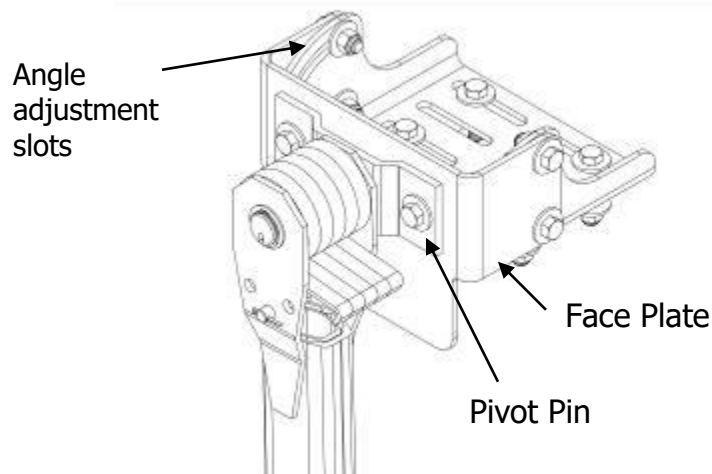

Figure 23
4. Locate Pivot mount face plate and bolt it to the base mounting plate as shown in Figure 23. Note the slotted holes in the base mounting plate these will allow you to level the face mounting plate if your catwalk is not level with the ground. The face plate must sit vertically so if you have a slope nose trailer and your catwalk is perpendicular to the trailer you will have to level this bracket using the provided slots.
5. Bolt Pivot the pivot pin to the face plate as shown in figure 23, not the pin will be installed in the arm as shown in figure 23. Figure 23 shows a front arm for a pass stowing power kit.